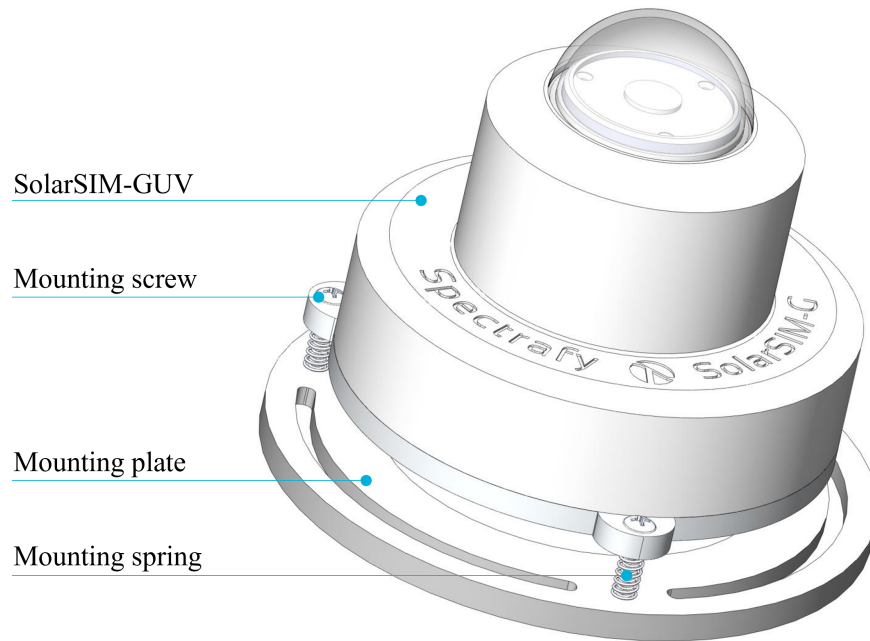
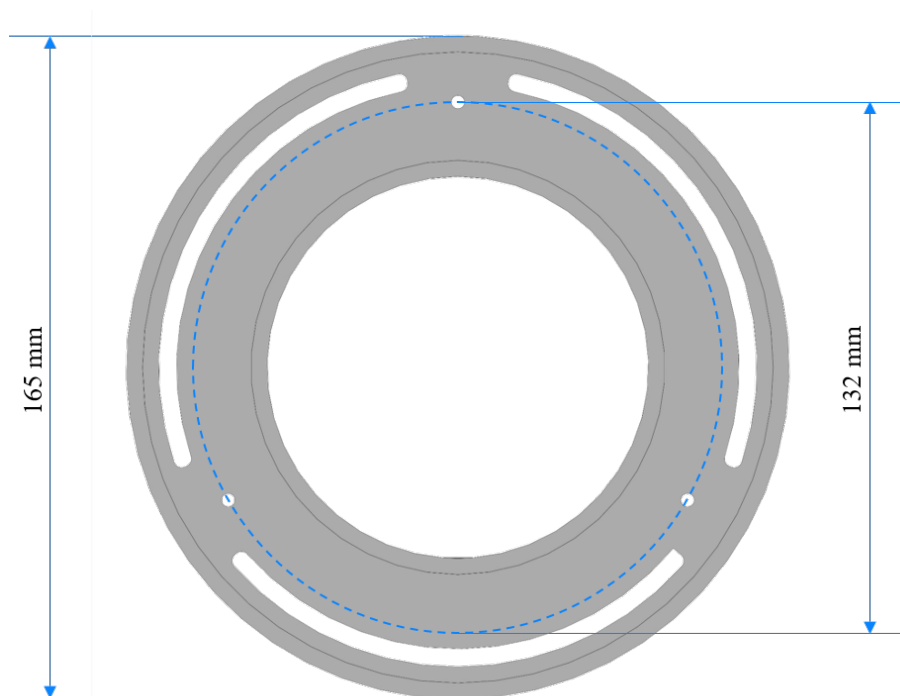

Figure 2: Assembled SolarSIM-GUV on a mounting plate.
Figure 3: Dimensional drawing of a mounting plate.
The SolarSIM-GUV installation requires fastening it to the mounting plate via three M4 screws and springs, as demonstrated in Figure 2. The mounting plate is 7.3 mm thick and has three slots with a 132 mm diameter that are 4.5 mm wide for external fastening, as shown in Figure 3. The screws for external mounting are not provided. The procedure for mechanical installation is described as follows:
1. Place the SolarSIM-GUV on the mounting plate as per Figure 3.